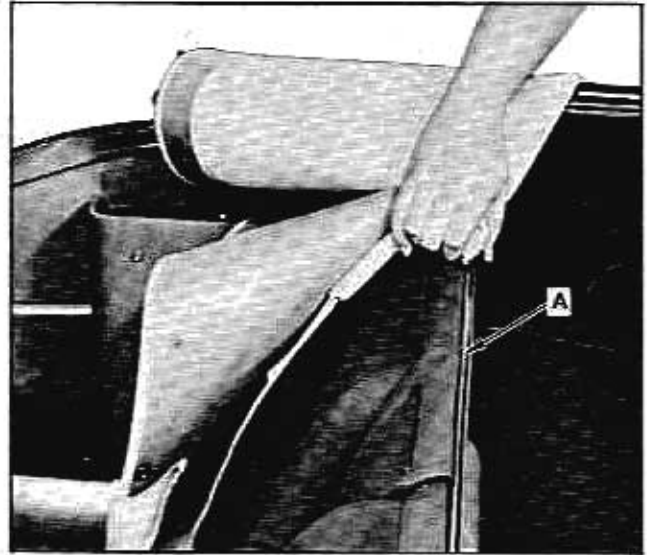

Fig. 7-10 Slide Boot Into Retainer
1. Slide front edge of boot into retainer A along seat back (Fig. 7-10). Center boot for proper engagement of snap fasteners.